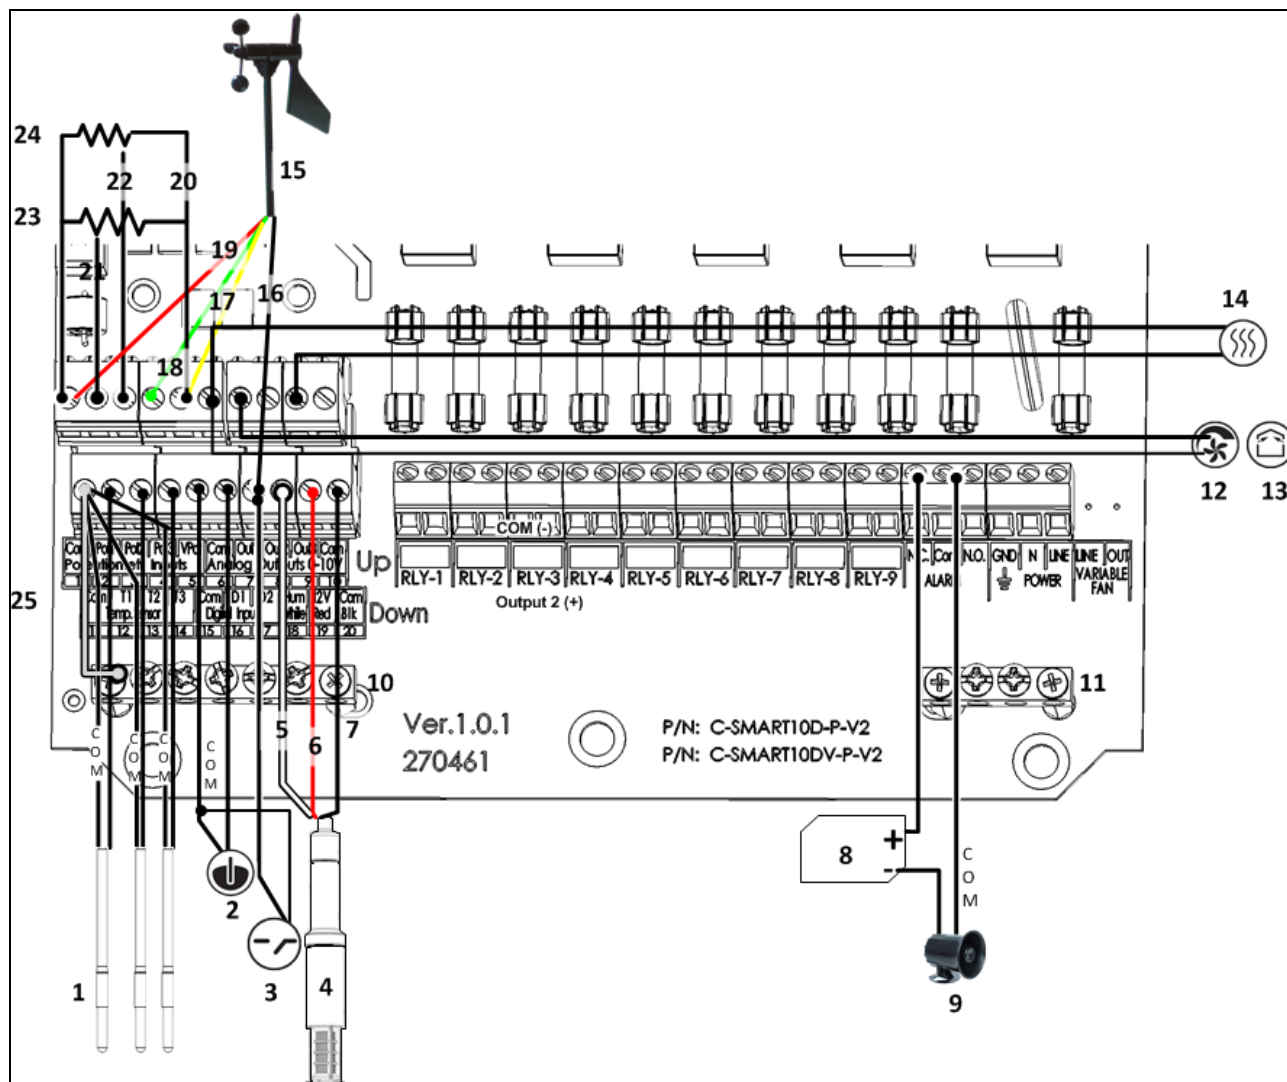

Figure 9: Smart D Wiring Diagram of Low Voltage Section
Figure 9 key
- ➡ Install temperature sensors as shown in Figure 2 and Figure 9.
➡ Using this function requires an installed humidity sensor. Refer to Figure 2 and Figure 9.